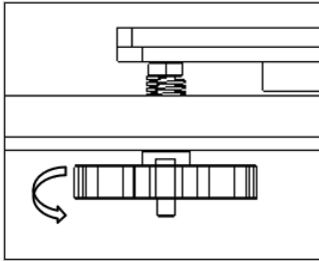

Fig 1
**Step 2: Tighten the hand nuts under the bed to move down the bed to the lowest position (Fig 1).**